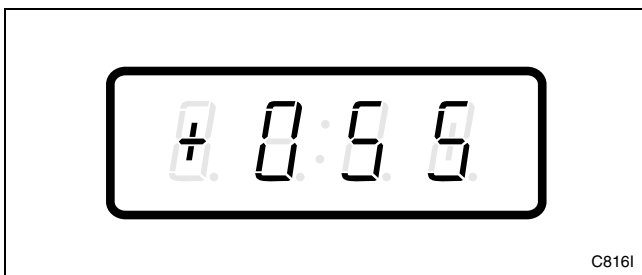

Figure 200
- Press the DELICATES (+) or the COLD (-) keypad to scroll through the programmable options until “+055” appears in the VFD. Refer to *Figure 200*.